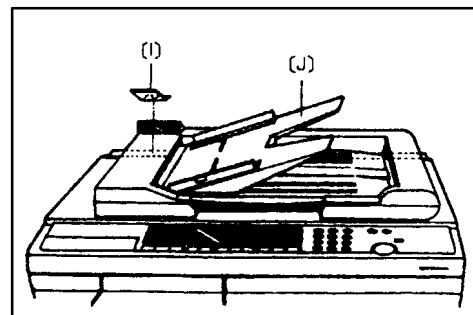

Fig. 4
12. After attaching the plastic cap with a hole [I], attach the copier rear cover. (Fig. 4)